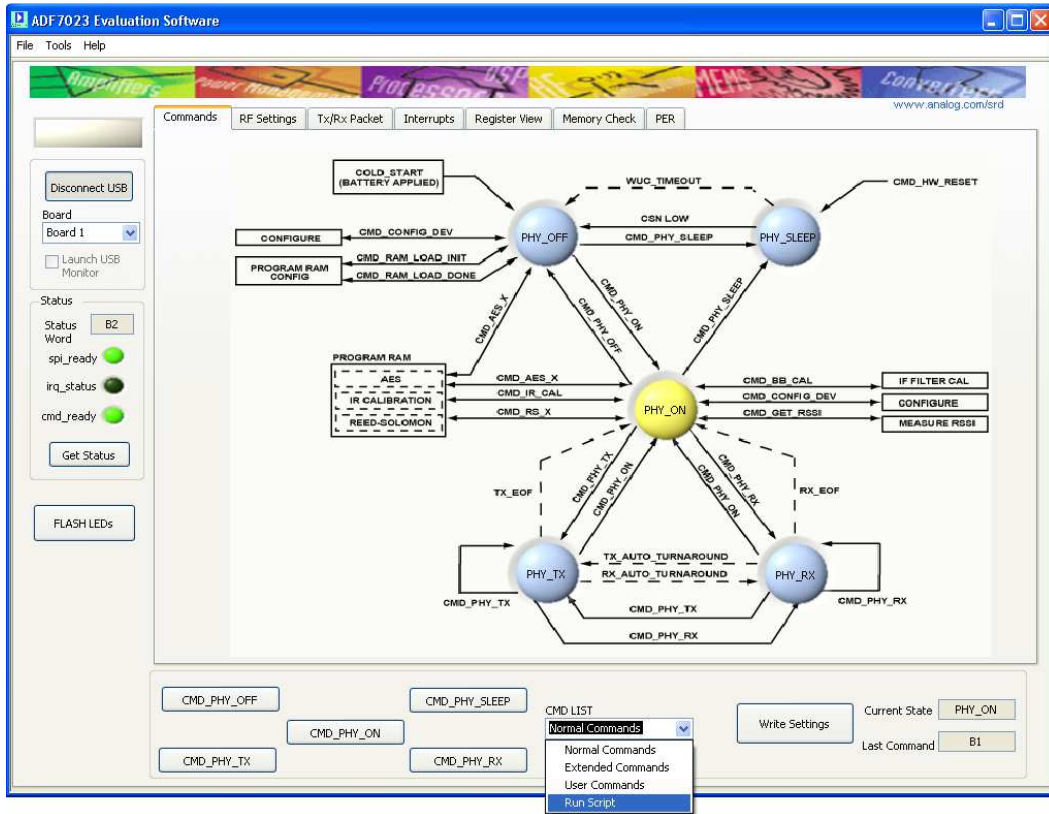

Figure 41
1. Select **“Run Script”** from the **“CMD LIST”** drop down menu as shown in *Figure 41*Figure 41.